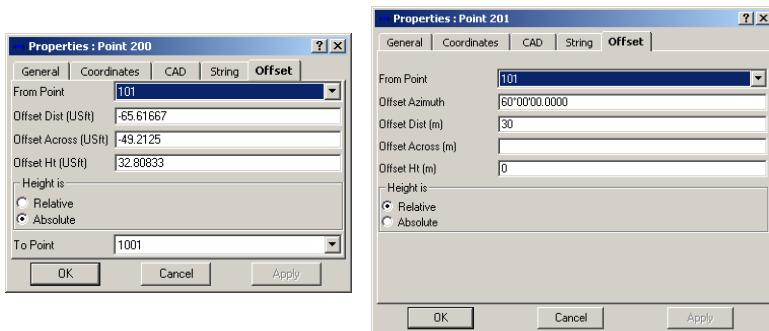

Figure 4-80. Point Properties – Offset Tab
- On the **Properties** dialog box, click the *Offset* tab (Figure 4-80).